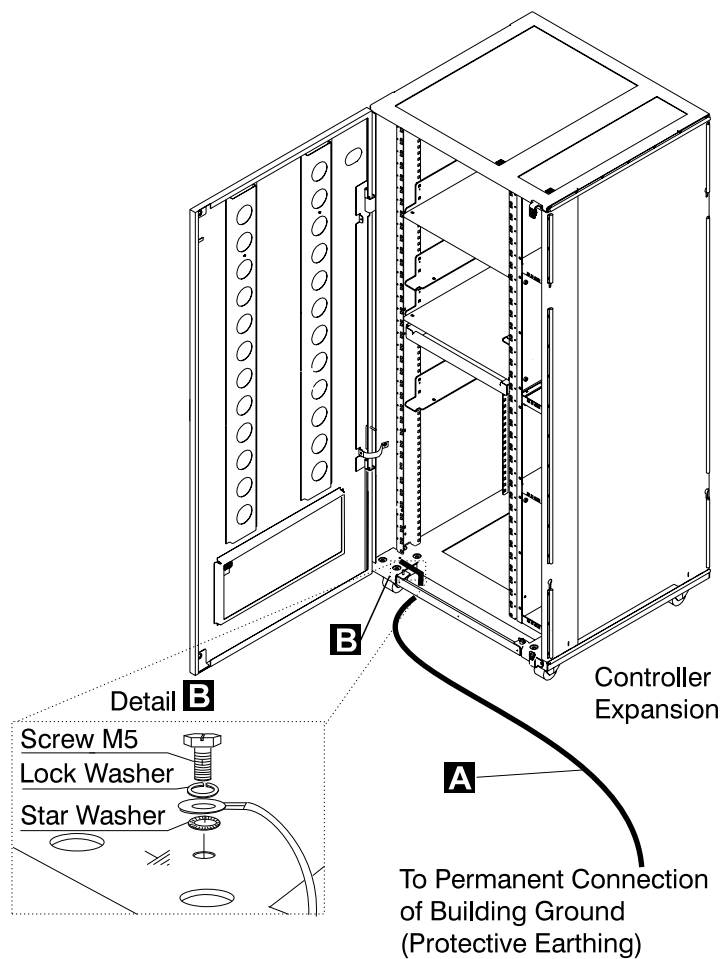
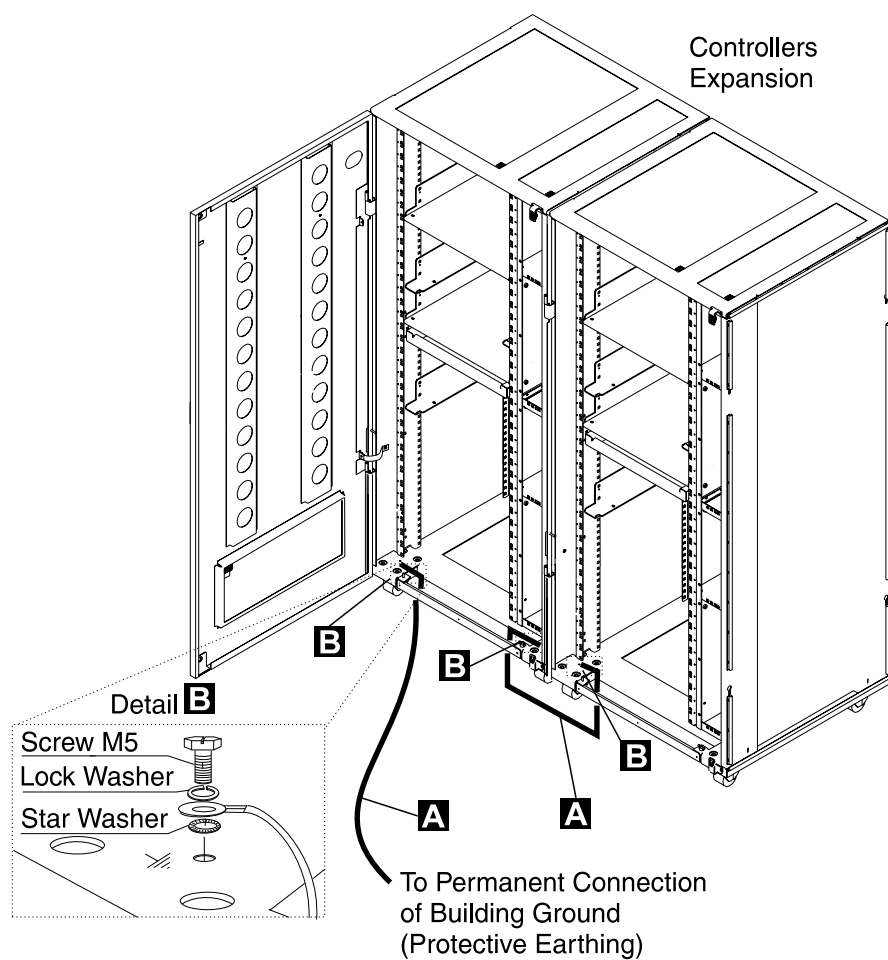
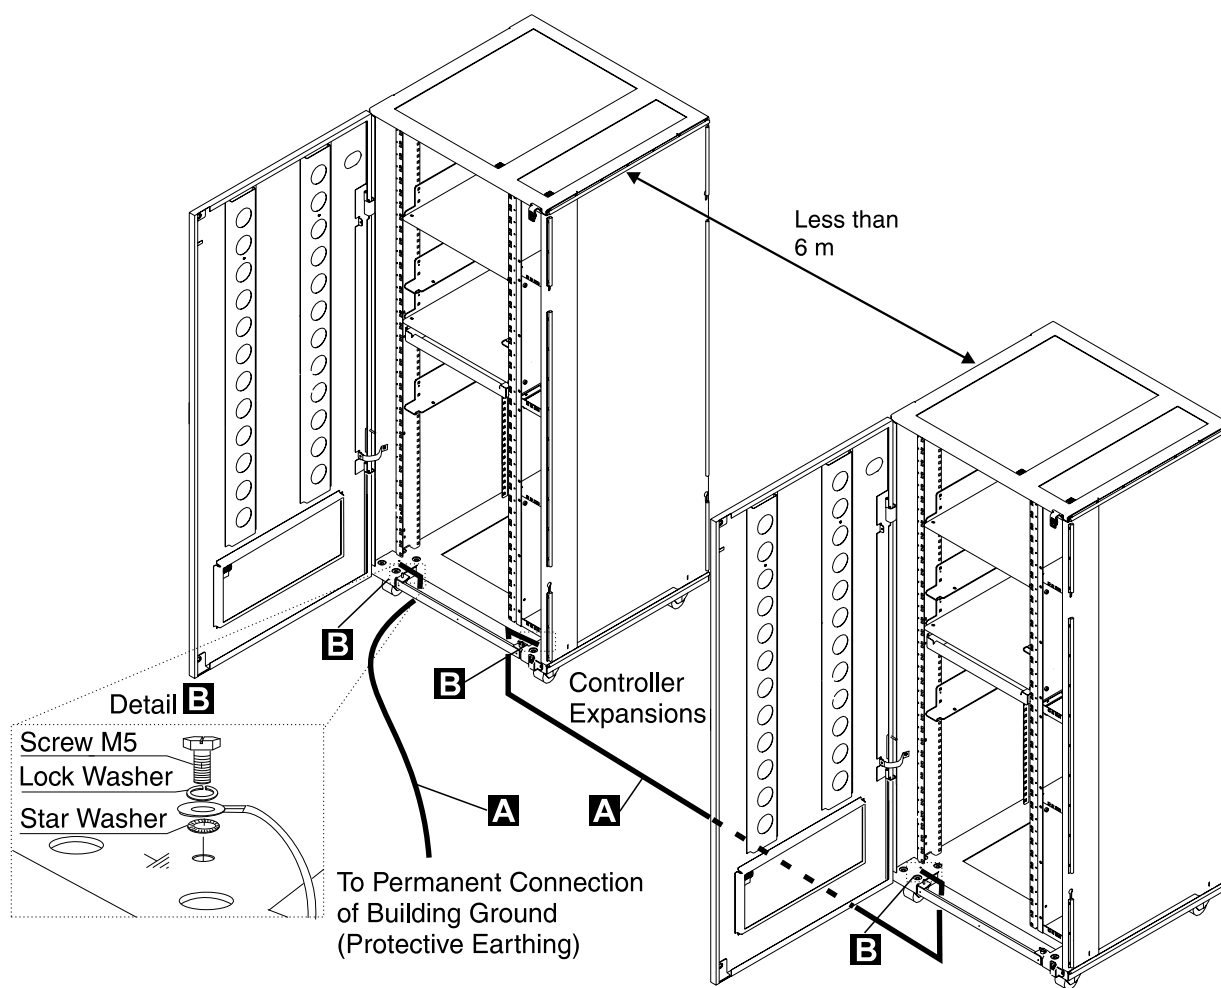
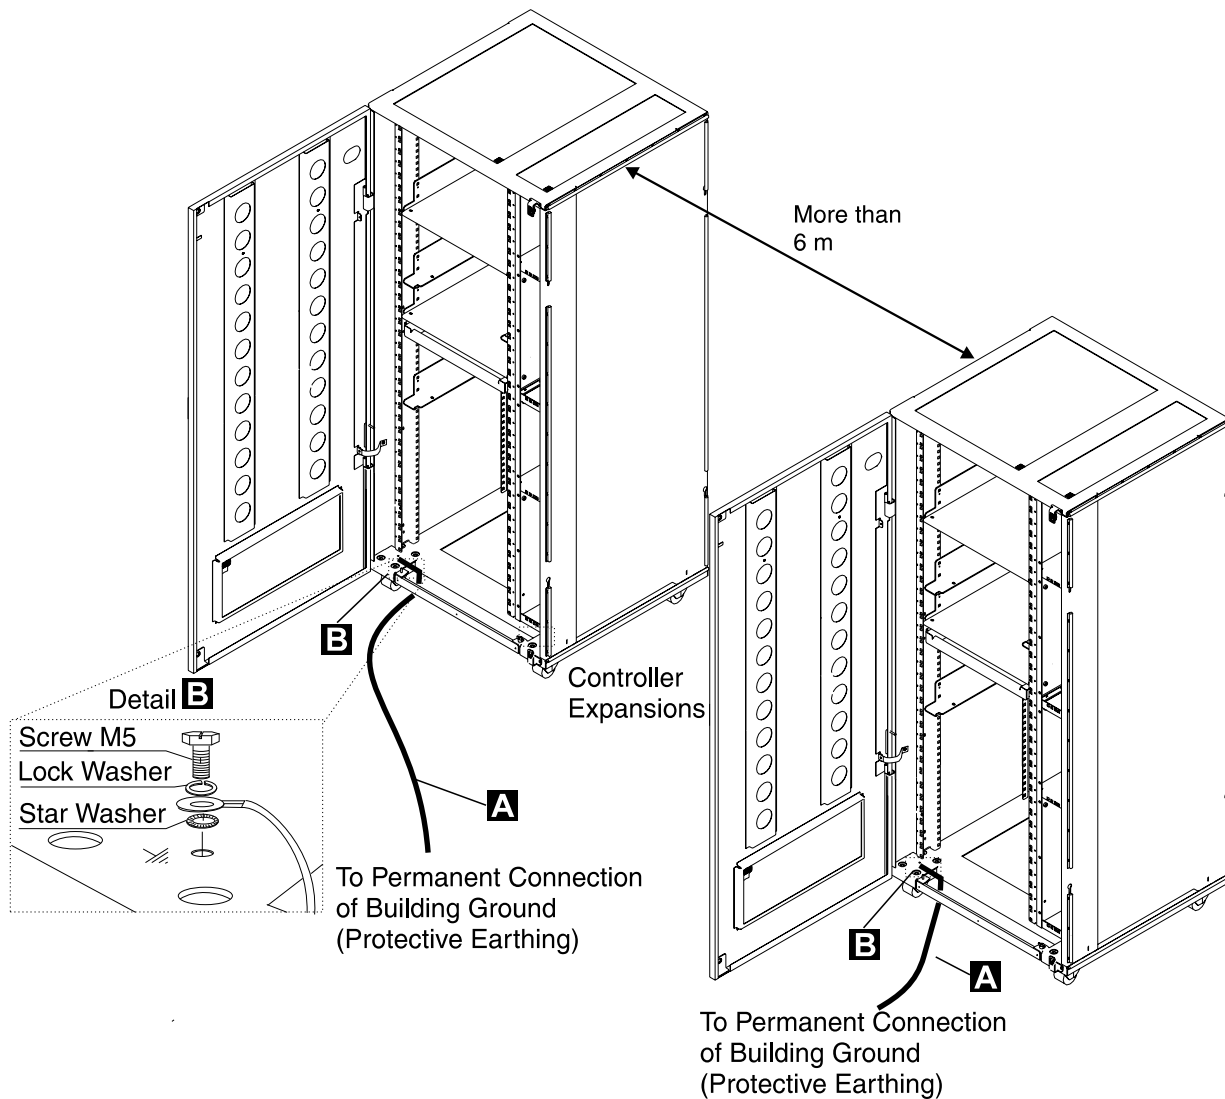

Figure 0-3. Ground Wire Connection On Controller Expansion
Figure 0-4. Ground Wire Connection Between Attached Controller Expansions
Figure 0-5. Ground Wire Connection Between Controller Expansions at less than Six Meters
Figure 0-6. Ground Wire Connection Between Controller Expansions at more than Six Meters
Do not remove the power cord and ground strap **A** of the controller expansion in order to maintain the ground protection (see Figure 0-3 on page xxv, Figure 0-4 on page xxvi, Figure 0-5 on page xxvii, or Figure 0-6 on page xxviii).
- For the controller expansion, an additional ground wire **A** is also used (see Figure 0-3 on page xxv, Figure 0-4 on page xxvi, Figure 0-5 on page xxvii, or Figure 0-6 on page xxviii).
- If you have only one controller expansion installed, check that the ground wire **A** is installed (see Figure 0-3 on page xxv).
- If you have several controller expansions installed, check that the ground wires **A** are installed according to your configuration (see Figure 0-4 on page xxvi, Figure 0-5 on page xxvii, or Figure 0-6 on page xxviii).